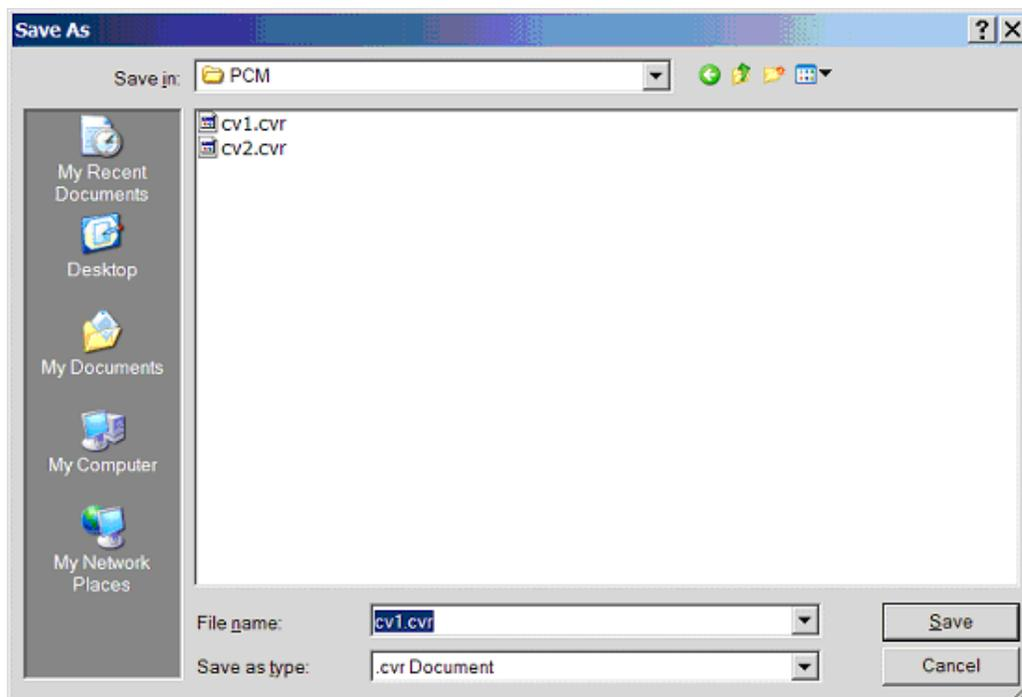

Figure 12. CVFDR Interface - File Download Save As Pop-up Window
(18) Select an appropriate directory on the host PC to store the file, then click on the **Save** button (Figure 12).